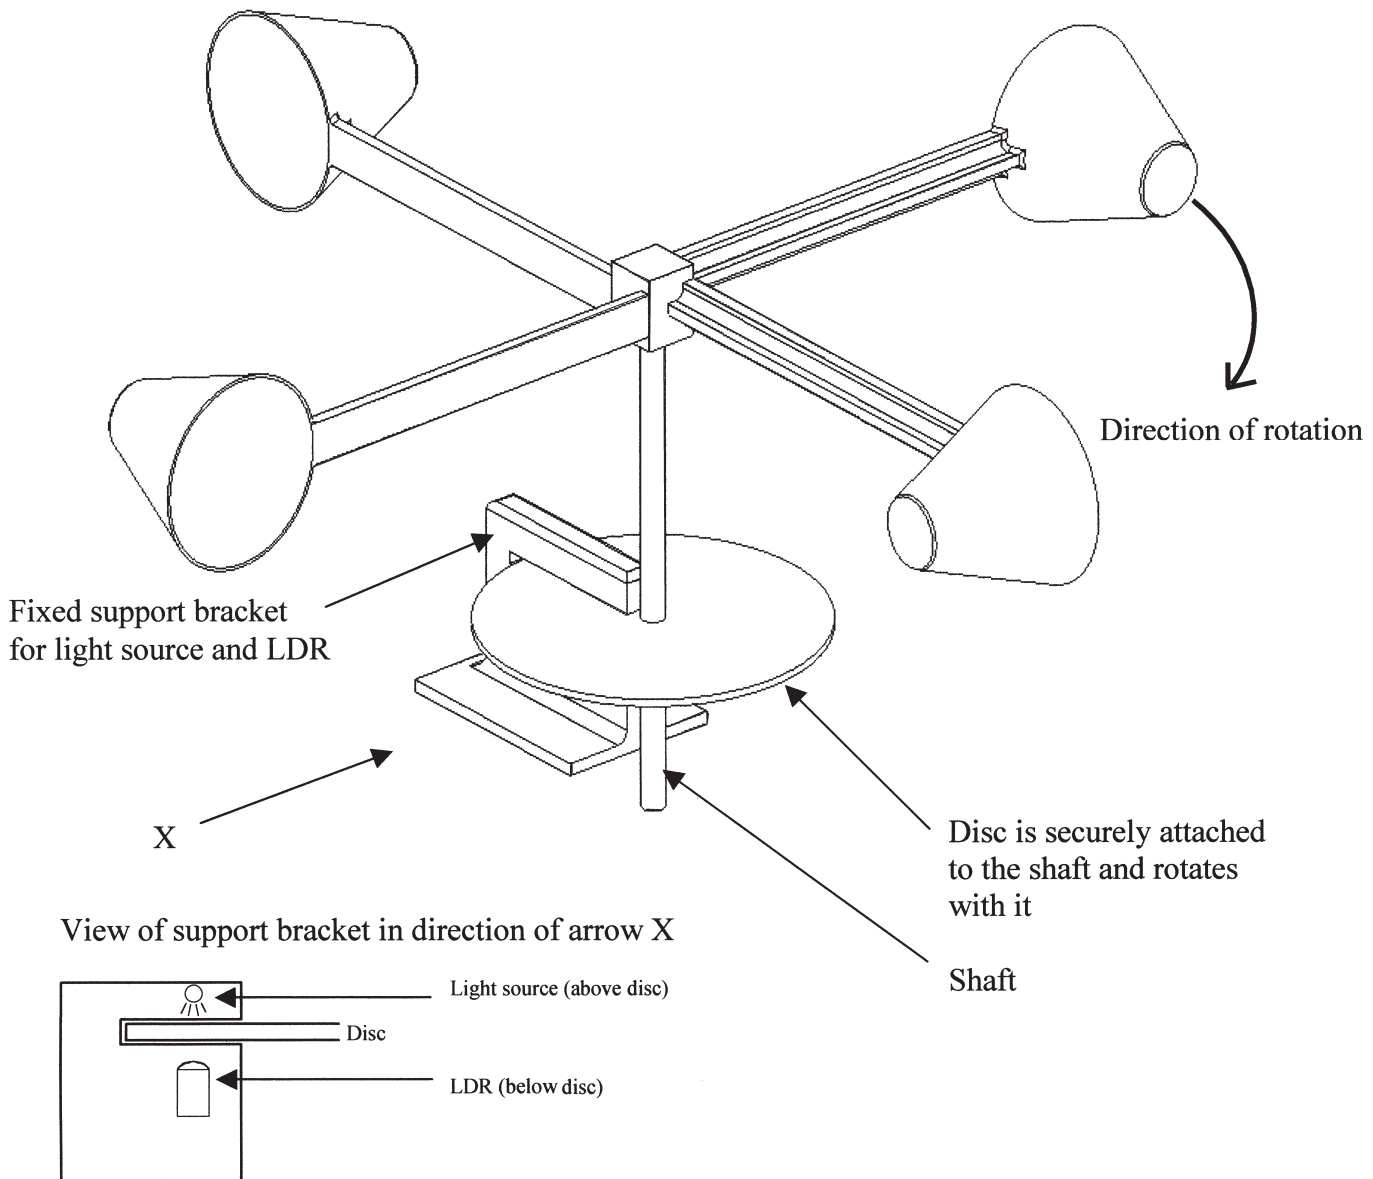

Figure 7
- (a) Show on **Figure 7** how the disc could be modified to allow the LDR to be exposed to the light twice for each rotation of the shaft.